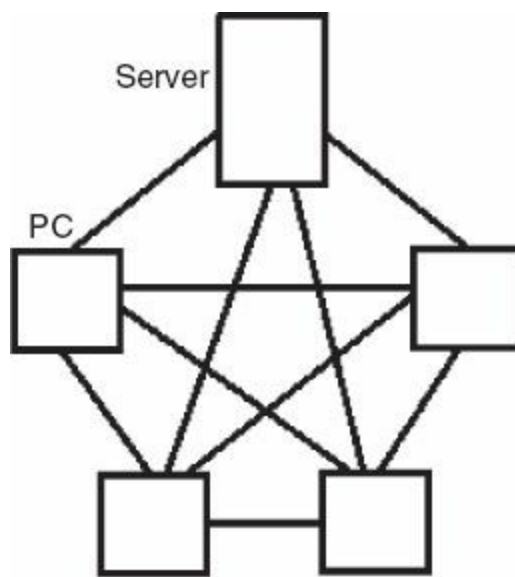

FIGURE 11.5 Mesh topology.
- Mesh topology: In mesh topology all the PCs are interconnected without a hub or any other device as shown in Fig. 11.5. The advantage of mesh topology is the high reliability it provides. The disadvantage is the high cost of wiring used in this topology.